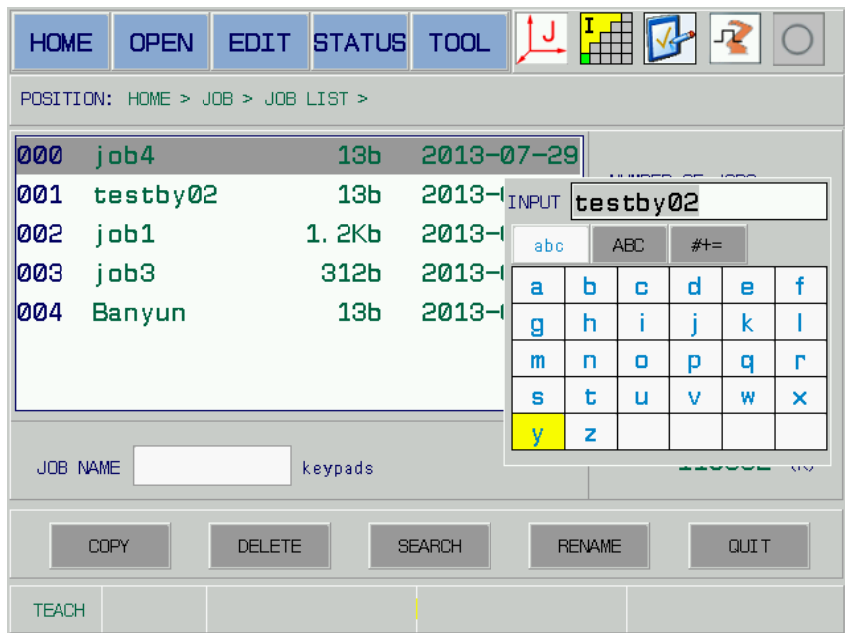

Fig. 5-15
2. In the {Job list} page, shift the cursor to the input frame by [TAB], then enter the soft keyboard input page matching with the [SELECT], input the program name “testby02”; refer to the Fig. 5-15.